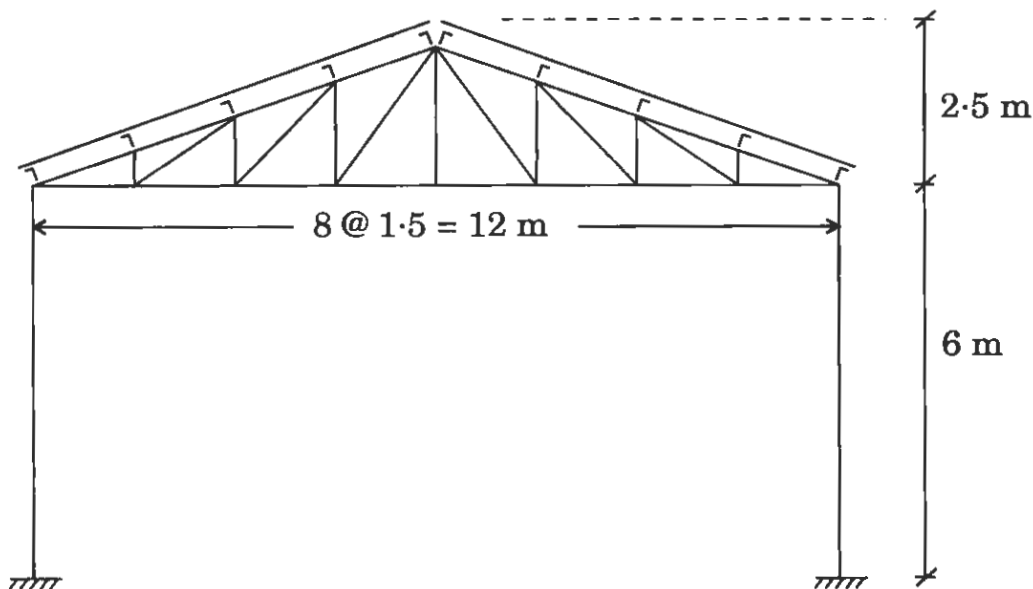

Figure 13
- (b) A factory shed is to be constructed using truss having a span of 12 m. The spacing of the truss is 4 m. Galvanised iron sheets are to be placed over purlins located at the nodes as shown in Figure 13. Determine the design load at the nodes due to live load and wind load for an intermediate truss. Assume design wind pressure = 1500 N/m^2 . $C_{pe} = -0.7$ (for wind angle 90°), $C_{pi} = \pm 0.2$. Loads are to be shown in the diagram separately. 20